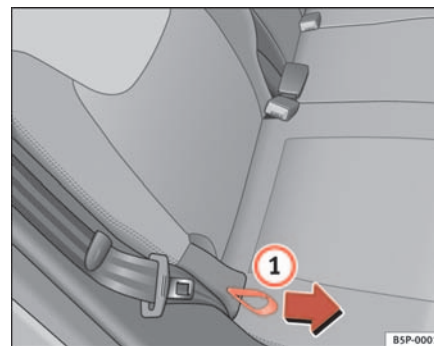

Fig. 98 Rear seat backrest angle adjustment
- Hold the backrest at the top. Pull the loop on the side of the seat ⇒ page 129, fig. 98 ① in the direction of the arrow and hold the loop in this position. Push the backrest to the required position and release the loop.